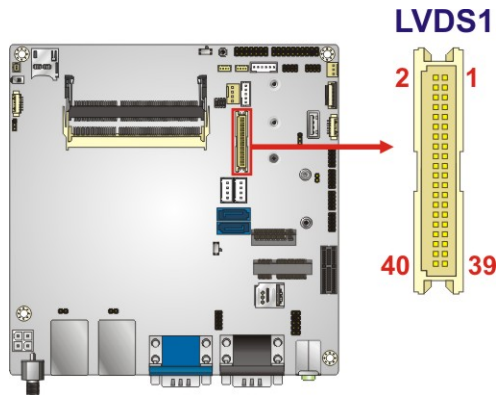

Figure 3-14: LVDS Connector Location
- CN Location:** See **Figure 3-14**